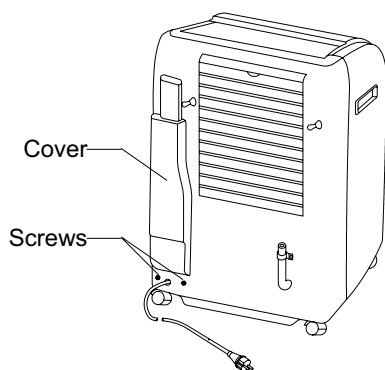

Fig. 12
3. Remove the 2 screws on the cover on the back of the unit (Fig. 12).